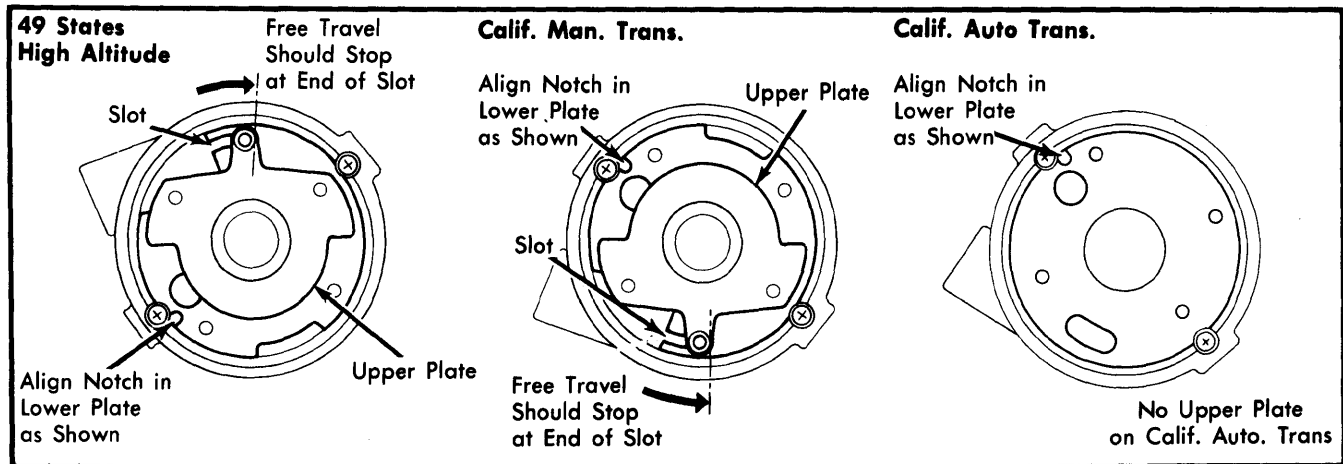

Fig. 12 Installing Breaker Plate on Accord & Prelude Models
4) Align breaker plate in distributor housing. See Fig. 12. Check that upper plate moves freely (California Accord and